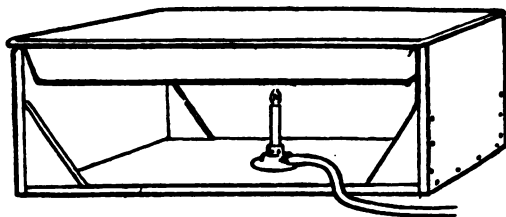

FIG. 17.
**Sizing** gently warmed, and should be used at about a temperature of 120° F. Care must be taken not to heat too quickly, or the solution may burn and turn brown. If the size is not quite clear, it should be strained through fine muslin or linen before being used. When it is ready it should be poured into an open pan (fig. 17), so arranged that it can be kept warm